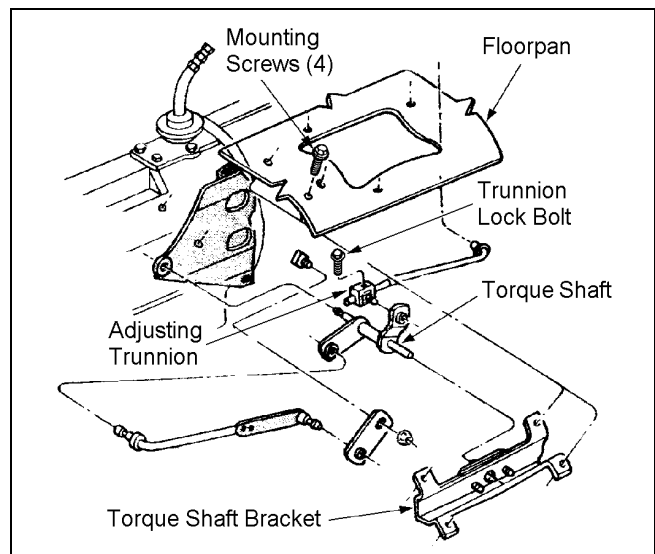

Figure 19
- 2) Remove the four screws that attach the torque shaft bracket to the floor pan. See figure 19.